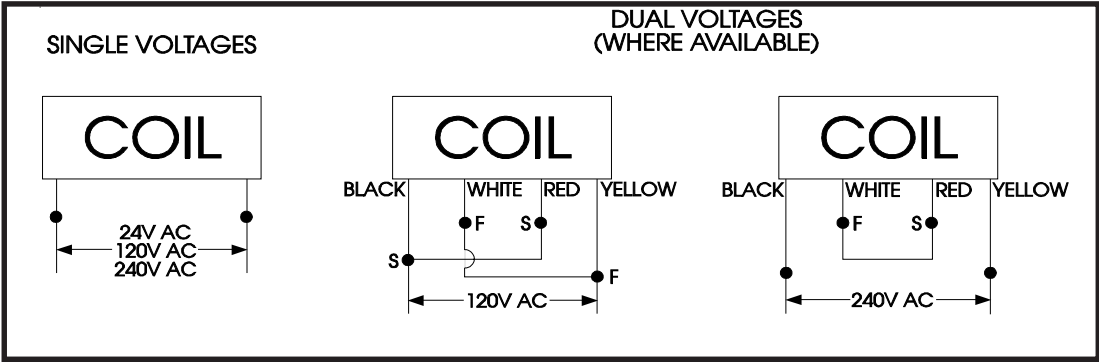

Figure 2. Wiring Diagrams
3. Connect wires (2 for B-KM Series or 4 for B-KME Series) using wire nuts (supplied) in accordance with applicable local codes (Figure 2).